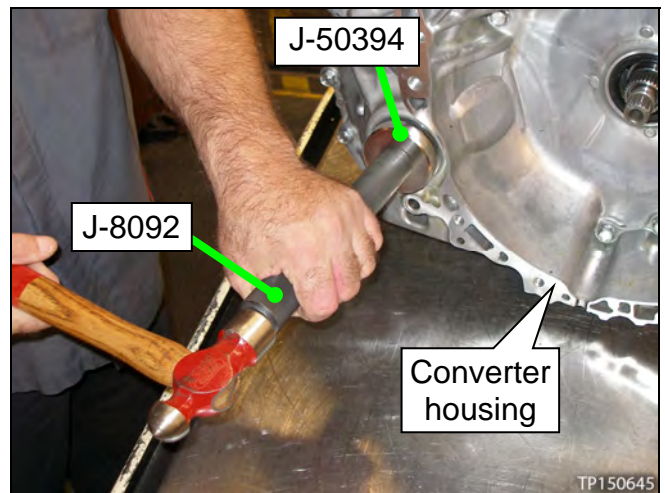

Figure 90
11. Install both differential (drive shaft) side oil seals (see Figure 90 and 91).
- For converter housing side, use Seal Installer J-50394 and Driver Handle J-8092 (see Figure 90).